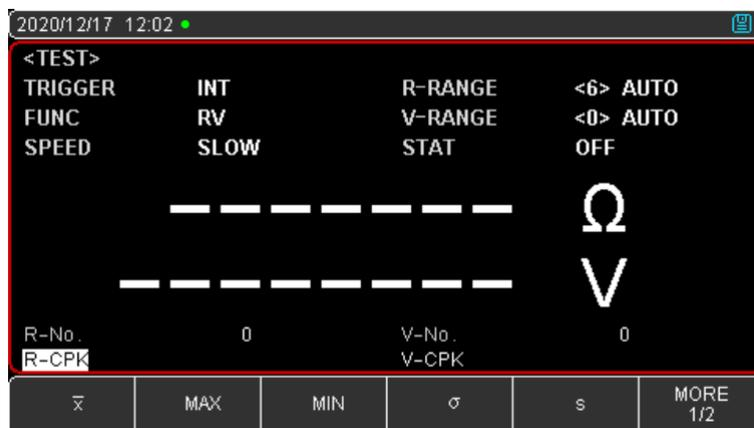

Figure 6-2-2 Setting Page of Statistical Parameters
5. Use the keyboard arrow keys to move the cursor to the fields to select other statistical parameters: MEAN(\bar{x}), MAX, MIN, σ , s, Cp, as shown in Figure 6-2-2. After determining the required statistical parameters, use the cursor keys to move the cursor to the [STAT] field and select the start function key at the bottom of the screen.